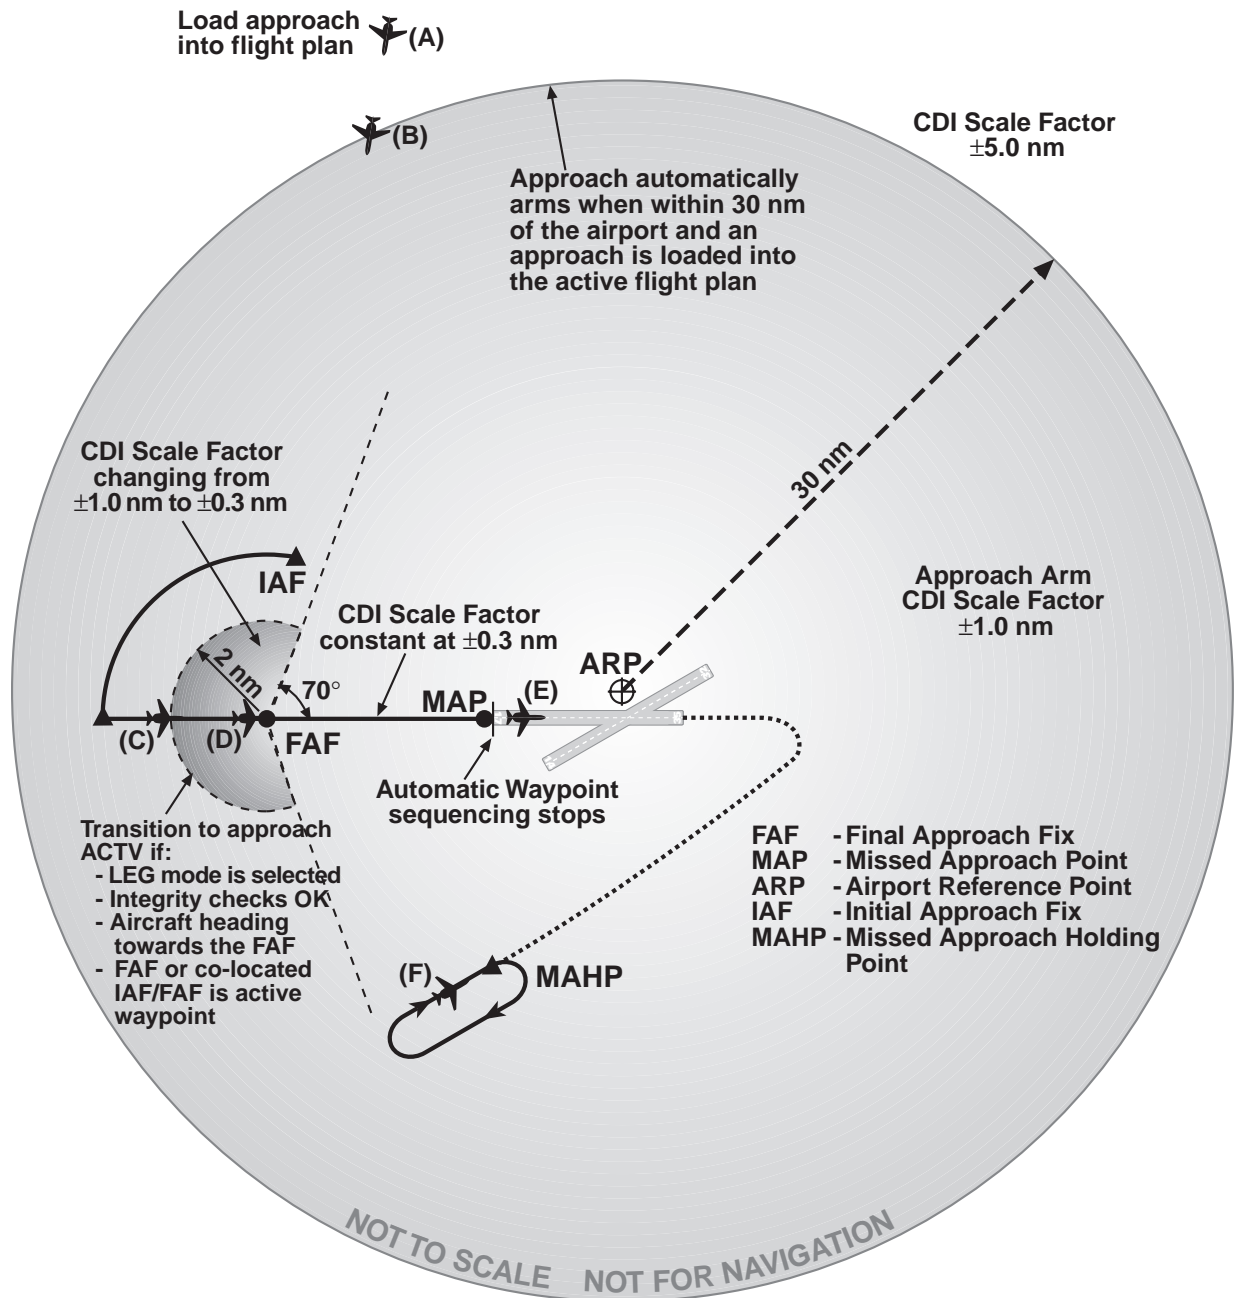

Figure 6-1 KLN 900 Approach Diagram
Non-precision approaches will all have the general flow of events as follows. Refer to figure 6-1.
1. **Select and load the approach into the flight plan.** This can be done at almost any time but must be completed before reaching the Final Approach Fix and should be done as soon as possible. This corresponds to point A in figure 6-1. If the aircraft is greater than 30 NM from the airport, then the CDI scale factor will remain at the default ± 5 NM full scale deflection.
2. **Transition to the approach arm mode.** This will occur automatically when the aircraft is within 30 NM of the airport and there is an approach loaded into the flight plan (position B in figure 6-1). The CDI scale factor will change to ± 1.0 NM over the next 30 seconds and the external annunciator will indicate **ARM**.
4. **Transition to the approach active mode.** This mode change is automatic and occurs at position C in figure 6-1 when:
5. At the FAF (position D in figure 6-1) the CDI scale factor will be at ± 0.3 NM and will remain at this scale factor until you manually cancel the approach mode by either pressing the external GPS APR button to change to the **ARM** mode, by initiating a direct to operation or by changing to OBS mode.
6. **Fly to the Missed Approach Point.** (position E in figure 6-1). The KLN 900 will not automatically sequence to the next waypoint. You must manually change to the appropriate waypoint according to the situation. By default, the KLN 900 will nominate the first waypoint of the published missed approach procedure when  is pressed, and the active waypoint is the MAP and you have flown past the MAP (rule number 4 in section 3.8).
7. **If necessary conduct the missed approach procedure.** Remember to always refer to the paper chart when conducting a missed approach. The OBS mode is usually needed at some point during a missed approach and is always required to fly the holding pattern (position F in figure 6-1).